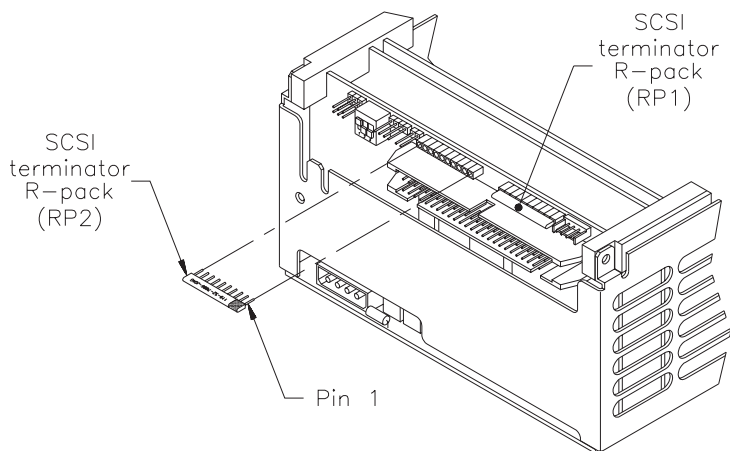

Figure 4 Location of R-packs (single-ended configuration)
1. Locate the two R-packs on the back of the tape drive, as shown in Figure 4.
If you need to put the R-packs back in the tape drive, make sure that pin 1 of each R-pack is aligned with pin 1 of the socket and that no pins are bent. As shown in Figure 4, the writing on the R-pack should face upward. Pin 1 of the R-pack is marked with a colored line or dot and should line up with the right side of the socket.